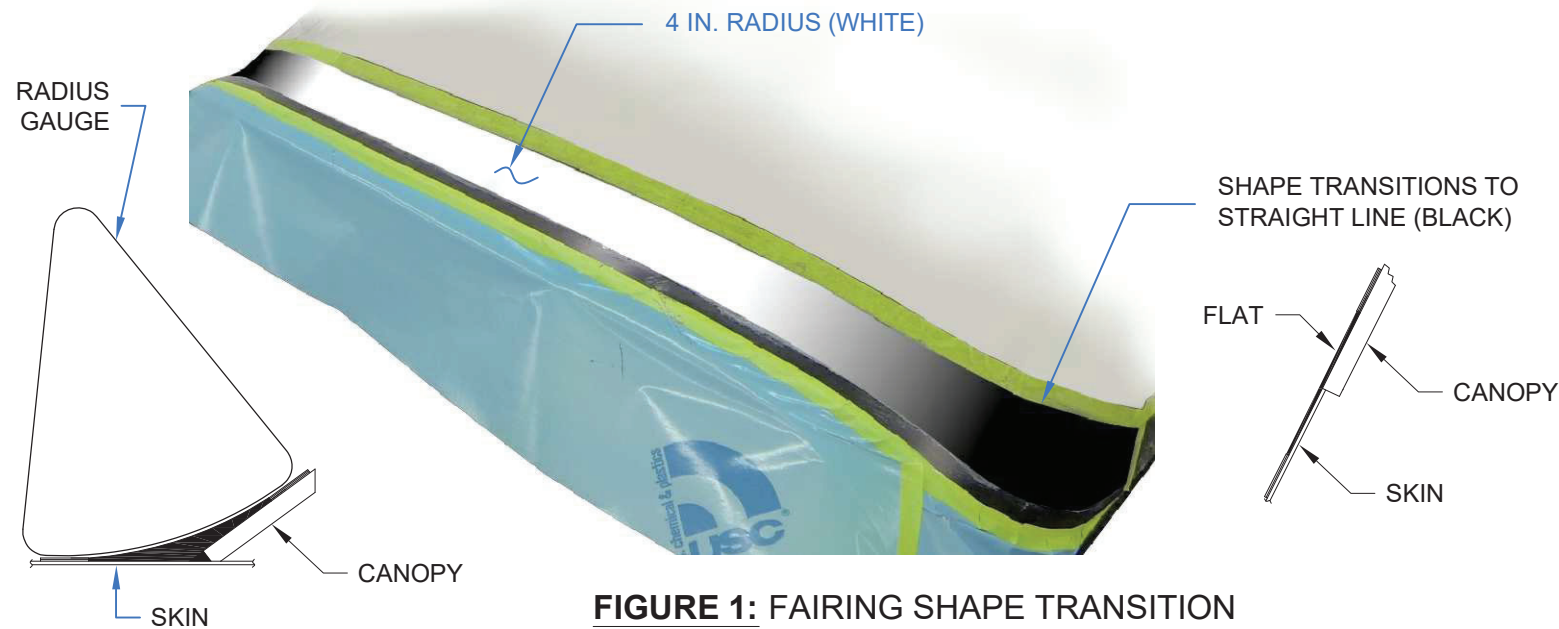

FIGURE 1: FAIRING SHAPE TRANSITION
Step 2: Use the Radius Gauge along the length of the forward edge of the canopy to visualize the optimum shape of the fairing. The fairing radius transitions into a straight line as it transitions outboard. See Figure 1 and Figure 3.